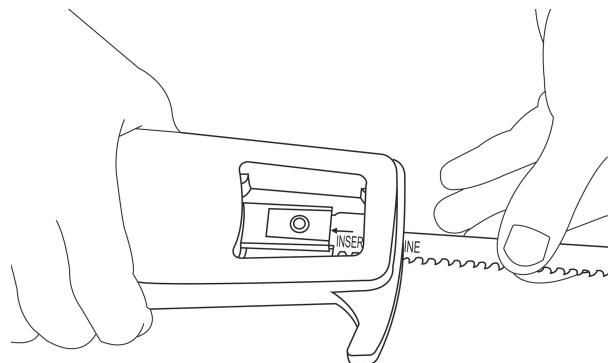

Figure-1
- Insert the blade through the slot in the front of the saw head and in between the blade carrier and blade clamp. See Figure-1. Insert the blade until the “INSERT” line on the blade is even with the end of the blade clamp. Also ensure that the slotted hole in the blade lines up and slides onto the pin on the blade carrier.